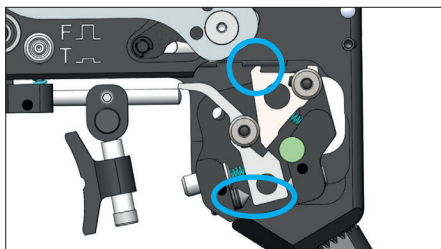

Fig. 7
1. Place the m-trigger in the LP500 as shown in Fig. 7. The trigger should make contact in the marked areas. Then push the trigger forwards (in the firing direction) until the first mounting screw can be inserted.